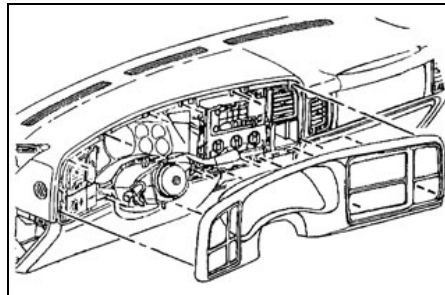

Figure 1
- A. Remove the instrument panel by pulling it towards you, releasing the retaining clips from the overall dashboard assembly (see figure 1).